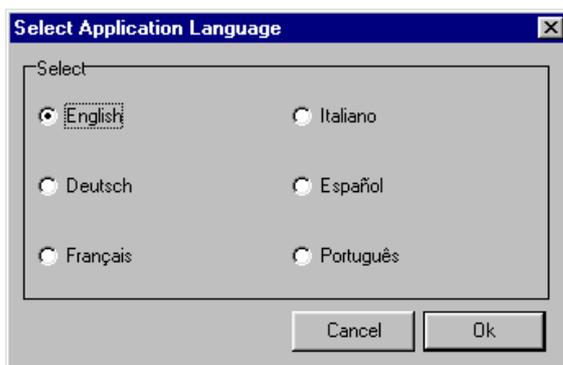

Figure 14: Selecting the desired language
- Click on 'Install TextBridge Classic 2.0'. Figure 14 will appear.